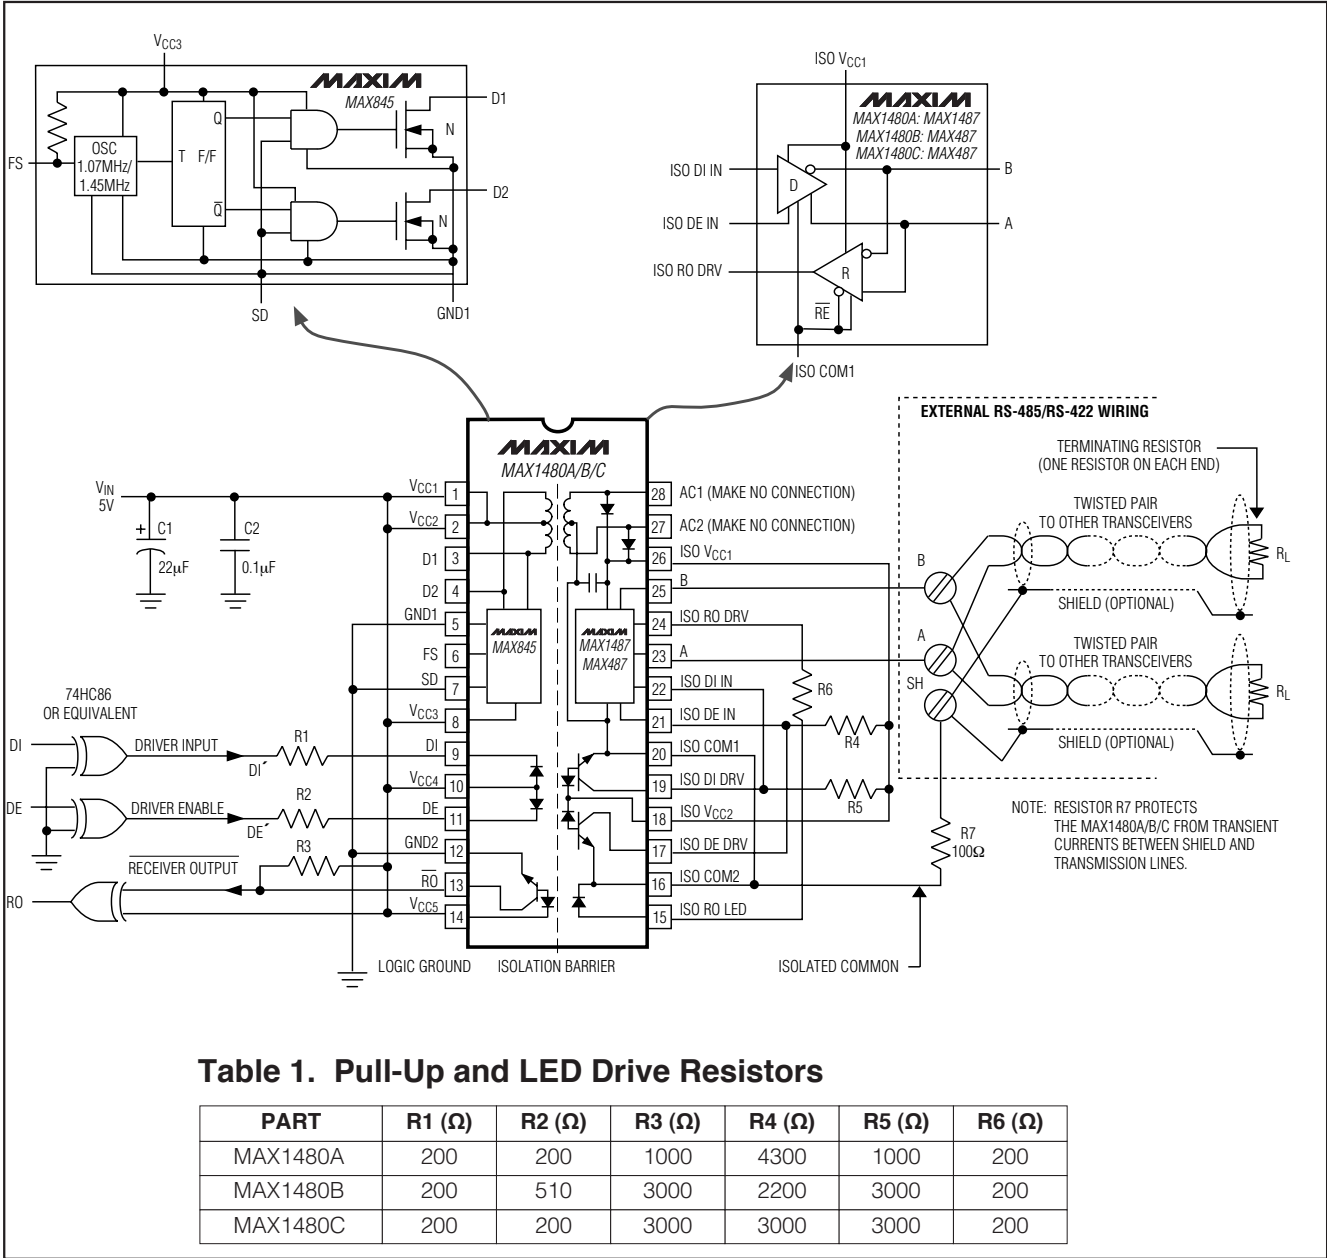
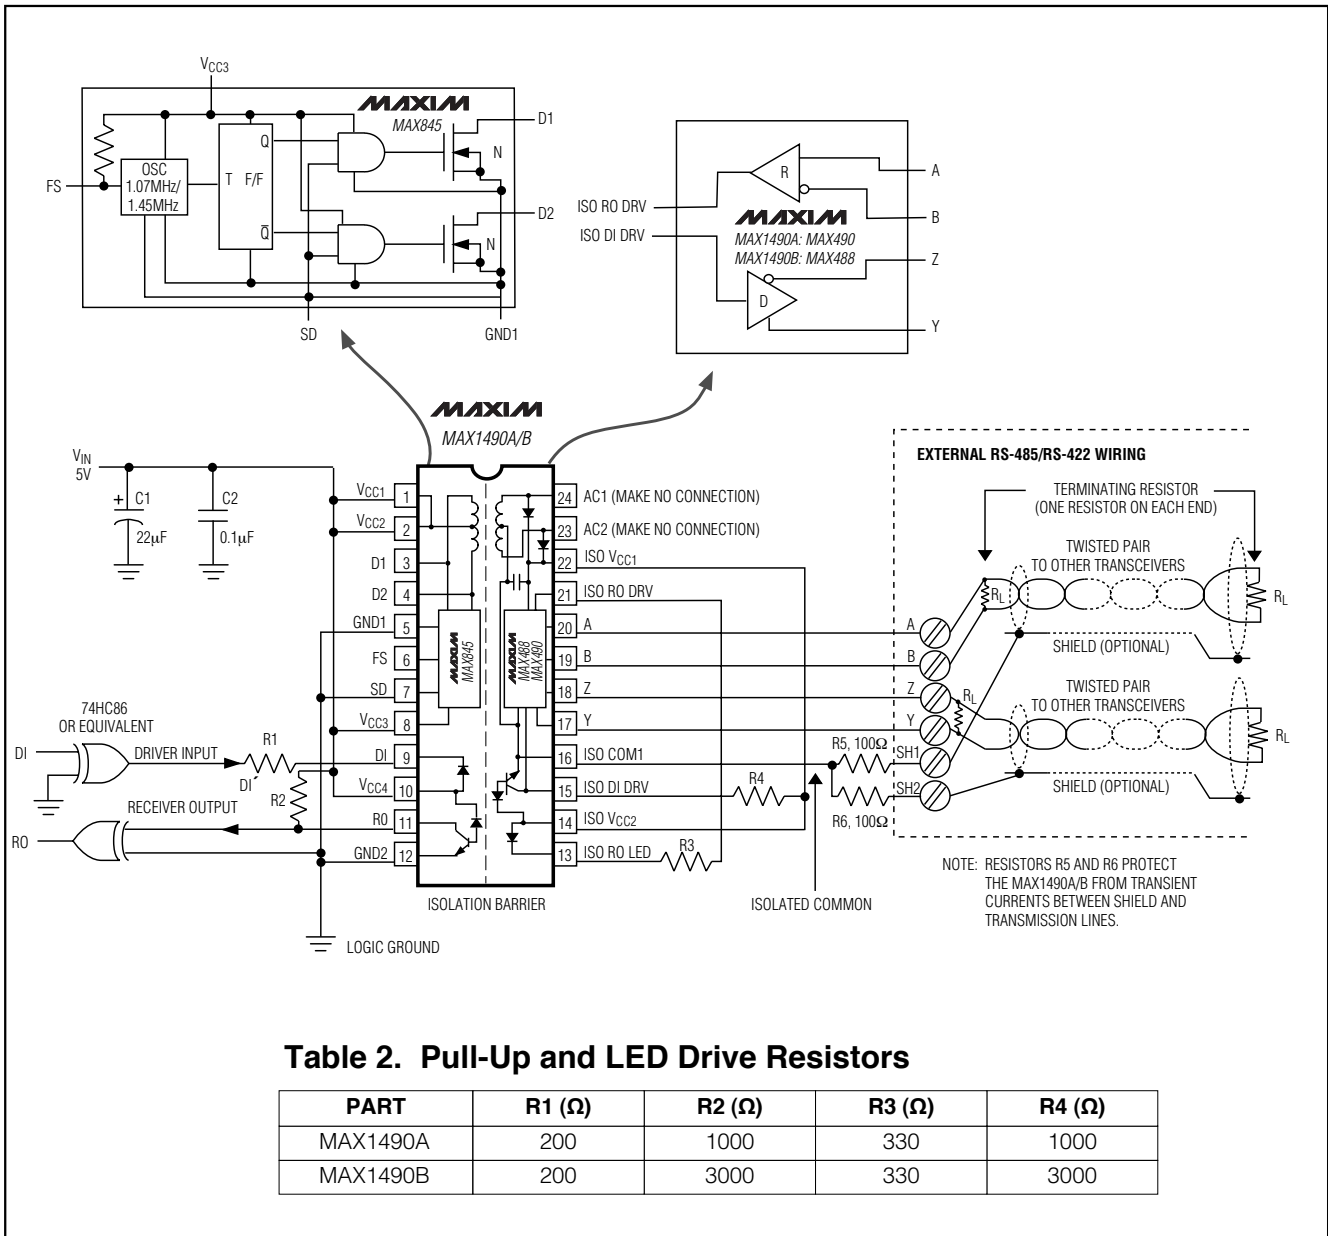

Figure 1. MAX1480A/MAX1480B/MAX1480C Detailed Block Diagram and Typical Application Circuit
Figure 2. MAX1490A/MAX1490B Detailed Block Diagram and Typical Application Circuit
**Note:** For DEˆ and DIˆ pin descriptions, see *Detailed Block Diagram and Typical Application Circuit* (Figure 1 for MAX1480A/B/C, Figure 2 for MAX1490A/B).
The MAX1480A/MAX1480B/MAX1480C/MAX1490A/MAX1490B are complete, electrically isolated, RS-485/RS-422 data-communications interface solutions. Transceivers, optocouplers, a power driver, and a transformer in one standard 28-pin DIP package (24-pin for the MAX1490A/B) provide a complete interface. Signals and power are internally transported across the isolation barrier (Figures 1, 2). Power is transferred from the logic side (nonisolated side) to the isolated side of the barrier through a center-tapped transformer. Signals cross the barrier through high-speed optocouplers. A single +5V supply on the logic side powers both sides of the interface. The MAX1480A/B/C offer half-duplex communications while the MAX1490A/B feature full-duplex communication. The functional input/output relationships are shown in Tables 3–6.
\* For DE′ and DI′ pin descriptions, see *Detailed Block Diagram and Typical Application Circuit* (Figure 1 for MAX1480A/B/C, Figure 2 for MAX1490A/B).
The MAX1480A/MAX1480B/MAX1480C/MAX1490A/MAX1490B are specified and characterized using the resistor values shown in Table 1 of Figure 1 and Table 2 of Figure 2. Altering the recommended values can degrade performance.
The isolated common may be completely floating with respect to the logic ground and the effective network ground. The receiver input resistors will cause the isolated common voltage to go to the mean voltage of the receiver inputs. If using shielded cable, connect the isolated common to the shield through a 100Ω resistor. In the case of the MAX1490, each shield should have its own 100Ω resistor (Figures 1, 2, 13, and 14).